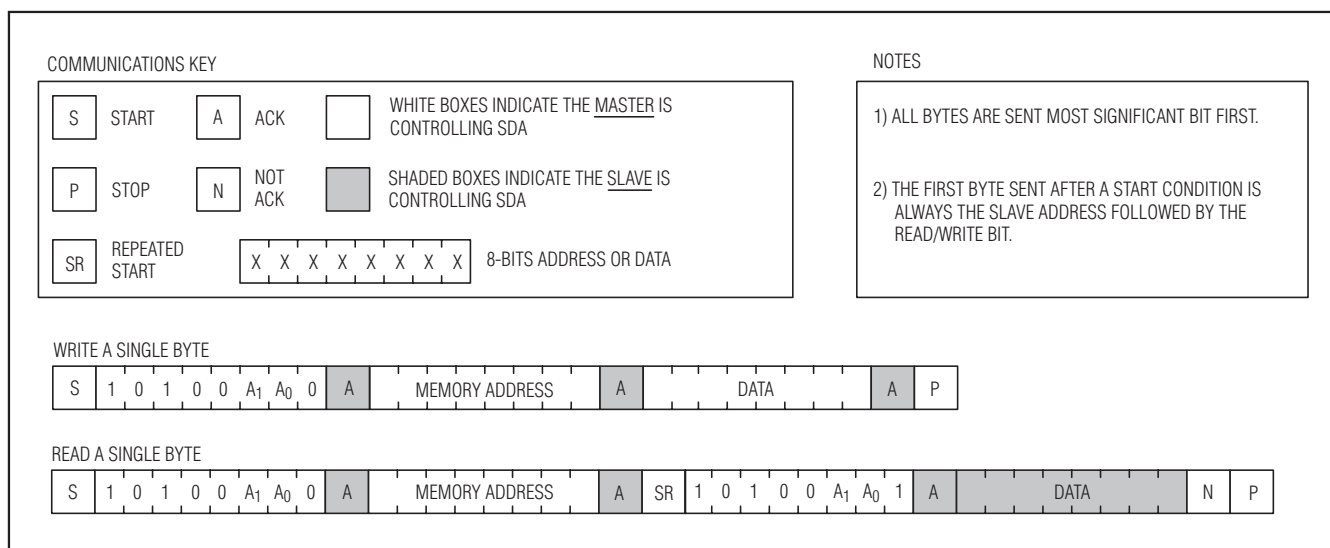

Figure 11. I2C Communications Examples
**Writing a Data Byte to a Slave:** The master must generate a start condition, write the slave address byte ( $R/\overline{W}$  = 0), write the memory address, write the byte of data, and generate a stop condition. Remember the master must read the slave's acknowledgement during all byte write operations. See Figure 11 for more detail.
**Reading a Data Byte from a Slave:** To read a single byte from the slave the master generates a start condition, writes the slave address byte with  $R/\overline{W}$  = 0, writes the memory address, generates a repeated start condition, writes the slave address with  $R/\overline{W}$  = 1, reads the data byte with a NACK to indicate the end of the transfer, and generates a stop condition. See Figure 11 for more detail.